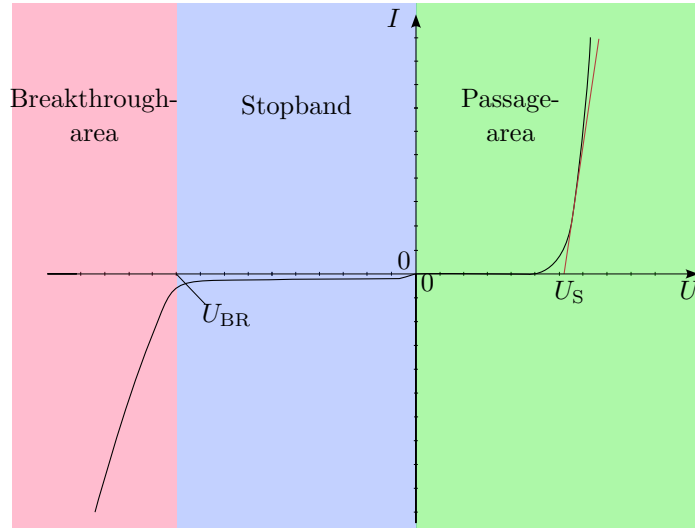

Figure 2.2: **Diode characteristic curve.** Relevant areas from left to right: breakthrough area, restricted area and passage area.
- **Forward bias range:** Operation in the forward bias range occurs when a positive voltage is applied in the direction of the diode, i.e. when the electrical potential at the anode is greater than that at the cathode (range to the right of the y-axis, see Figure 2.2). At a voltage above the barrier voltage ( $U_S$ ), the diode current increases approximately exponentially. The barrier